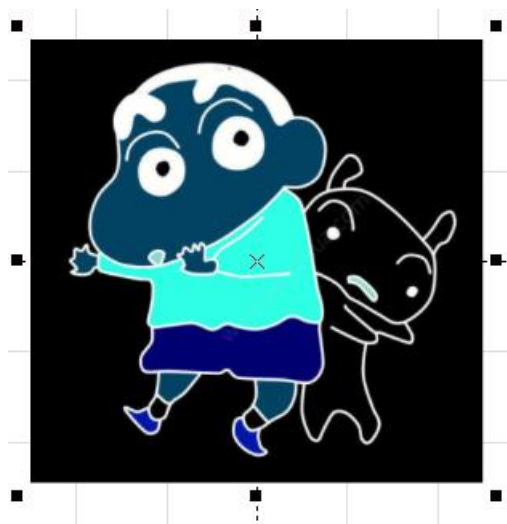

Fig. 4-35 Inverted Reversal Image
**Invert:** takes the opposite color value for each point of the current image, as shown in Fig. 4-35.
**Reversal:** The color value of each point in the current picture is reversed, and the formula adopted is  $PX_{new} = 255 - PX_{old}$ , as shown in Figure 4-35.